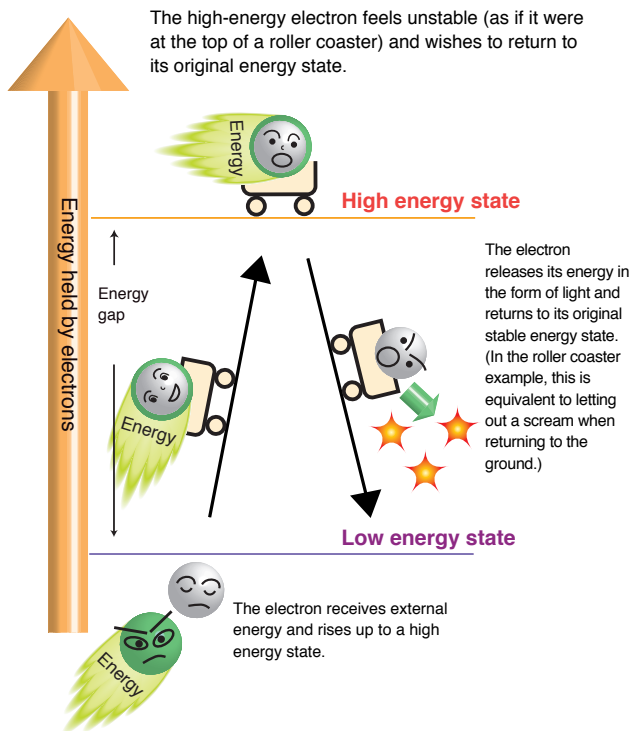
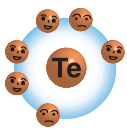
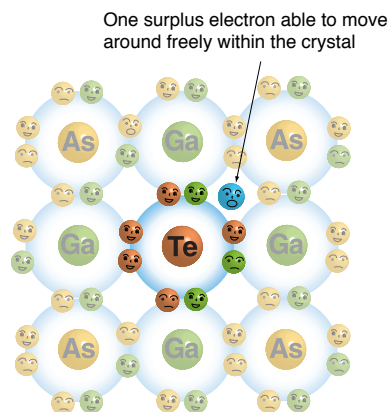

Figure 4
Figure 10
Figure 11
Please refer to Figure 4. A gallium (Ga), arsenic (As) and phosphorus (P) crystal contains many electrons, but here we shall again concentrate on just one to avoid confusion. Within the crystal, as well as the electron's own atom, there are many other atoms tightly packed around it in all directions. The energy held by each electron can vary to some extent because of the influence the electrons have on each other, but in this model, it is indicated by a single, fixed level.
Let's presume the magic wand has been waved and you are now firmly in the world of the atom, seated on board the electron roller coaster in Figure 4. As explained earlier, when the electron receives energy in the form of light, heat, or electricity from an external source, it is forced up into a high energy state.
Strictly speaking, the colour of light is determined by the following formula, known as Bohr's frequency conditions. In Fig.4, if the high energy state is E_2 , the low energy state E_1 and the energy gap E , then
Firstly, the technique to increase the number of electrons is to add tellurium (Te), which has atomic number 52 and has 6 electrons in its outer shell, as shown in figure 10. As a result, the tellurium **replaces some of the arsenic atoms**, as you can see in figure 11. However, because tellurium has **6 electrons in its outer shell, 1 more than arsenic’s 5**, there is **1 extra electron**. The energy held by this electron is high just like the energy at the top of the roller coaster in figure 4. Because this electron moves around freely within the crystal, it is known technically as a **free electron**. As explained earlier, electrons are negatively charged with electricity. Therefore, movement of electrons is equivalent to the flow of an electrical current.